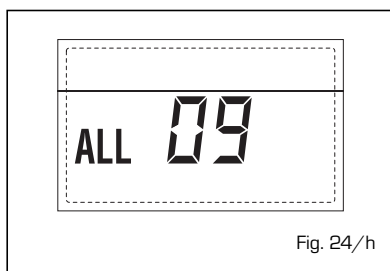

Fig. 24/h
**- AUXILIARY SENSOR ANOMALY ALARM 10** (fig. 24/l)